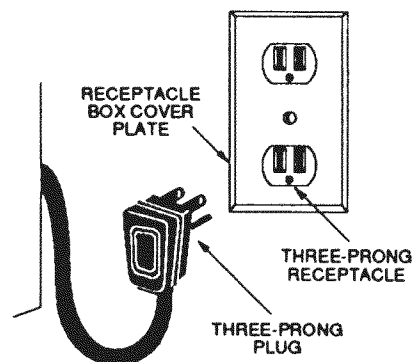

Figure 10: Recommended Grounding Method for 120V Models
Improper grounding or reverse polarization will cause malfunction (such as continuous sparking of the burner igniters). This can damage the appliance and can create a condition of shock hazard. If the circuit is not correctly grounded and polarized, it is the responsibility and obligation of the installer and user to have the existing receptacle changed to a properly grounded and polarized receptacle. This must be accomplished in accordance with all applicable local codes and ordinances by a qualified electrician. In the absence of local codes and ordinances, the receptacle replacement shall be in accordance with the National Electric Code. (See Figure 10.)
- Observe all governing codes and ordinances when grounding. In the absence of these codes or ordinances observe National Electrical Code ANSI/ NFPA No. 70 current issue. See Figure 10 for recommended grounding method.
IT MUST BE PLUGGED INTO A MATING, GROUNDING TYPE RECEPTACLE THAT IS CONNECTED TO A CORRECTLY POLARIZED 120 VOLT CIRCUIT (See Figure 10).